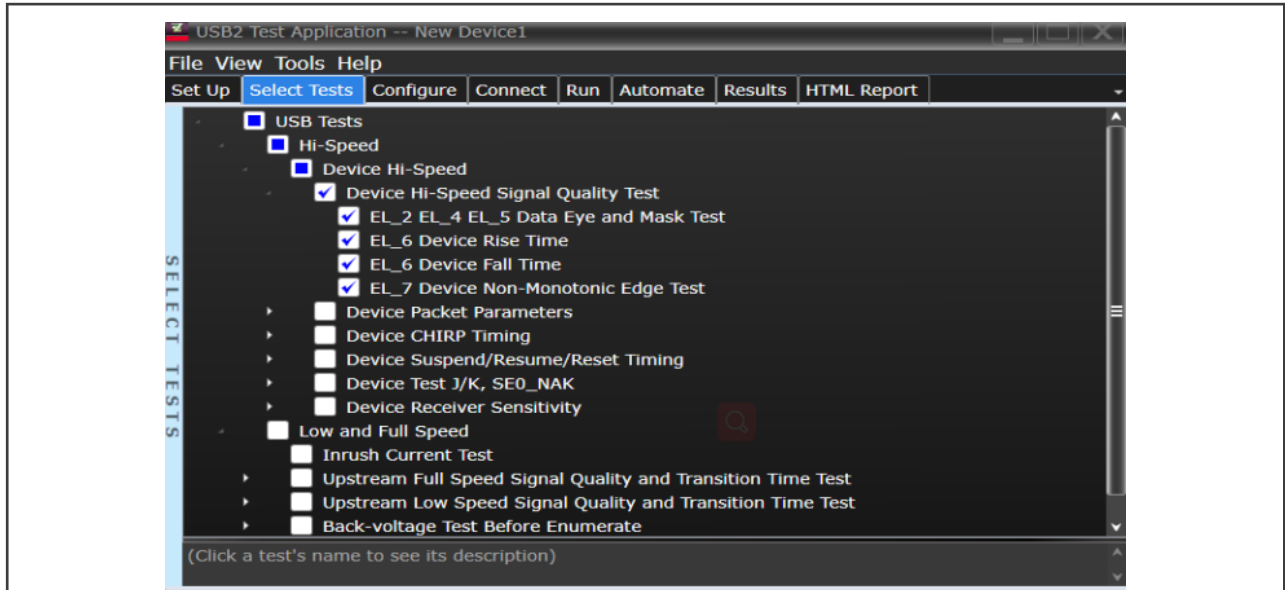

Figure 8. Device Hi-Speed Signal Quality Test
1. Open the test software in on the oscilloscope, select **Device** as the DUT, check the test items shown in Figure 8, and set the test type to **Hi-Speed Near End** in the **Configure** tab.